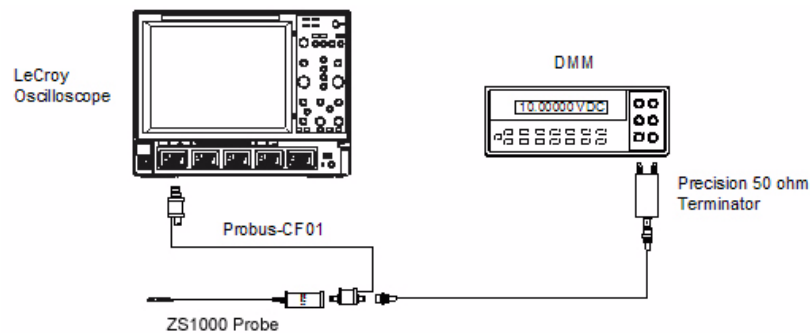

Figure 8-1. Output Zero Voltage Adjustment Setup
2. Connect the banana plugs of the precision 50  $\Omega$  terminator to the input of the DMM. Make sure the plug corresponding to the BNC shield (marked 'Ground') is connected to the **LO** or **COMMON** input of the DMM. Refer to Figure 8-1 for setup information.